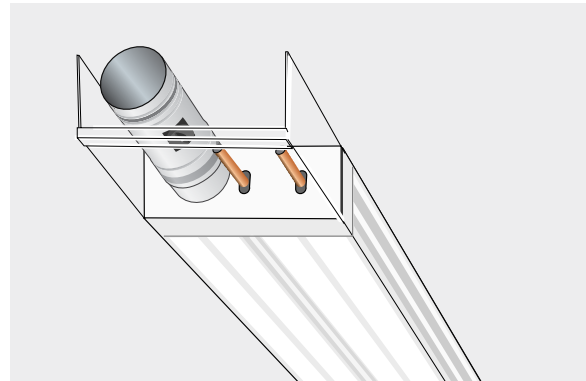

Figure 1. Podium 35 with connection cover.
**Wall connection option:** Connection cover to conceal visible piping to a wall, or between beams (see figure 1). The cover plate, however, provides access to the pipe fittings and damper. Indicate the length when you place your order.